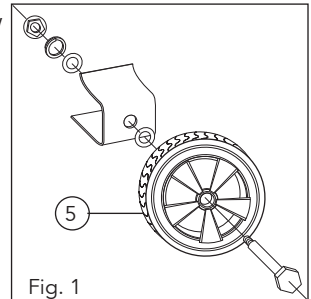

Fig. 1
Fitting the wheels (5) (Fig. 1):